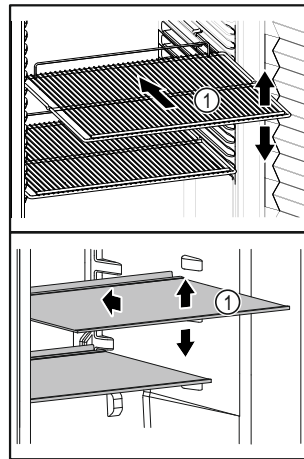

Fig. 54 Example illustration
- ❑ If storage surfaces Fig. 54 (1) are movable, adjust them according to height.